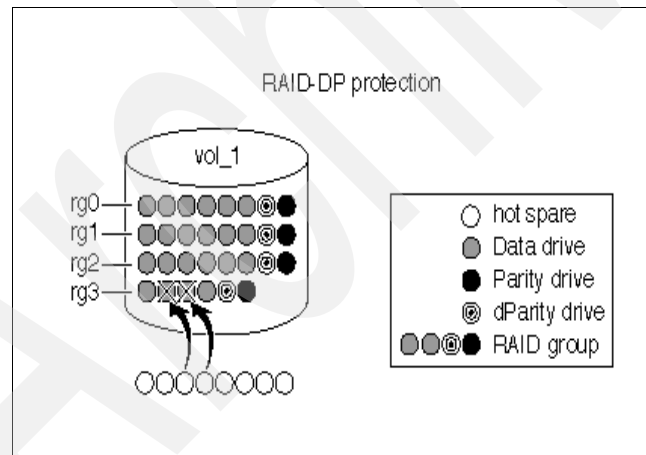

Figure 6-5 Hot spares
- ▶ Number of Spares: The more capacity, the more spares, as shown in Figure 6-5.